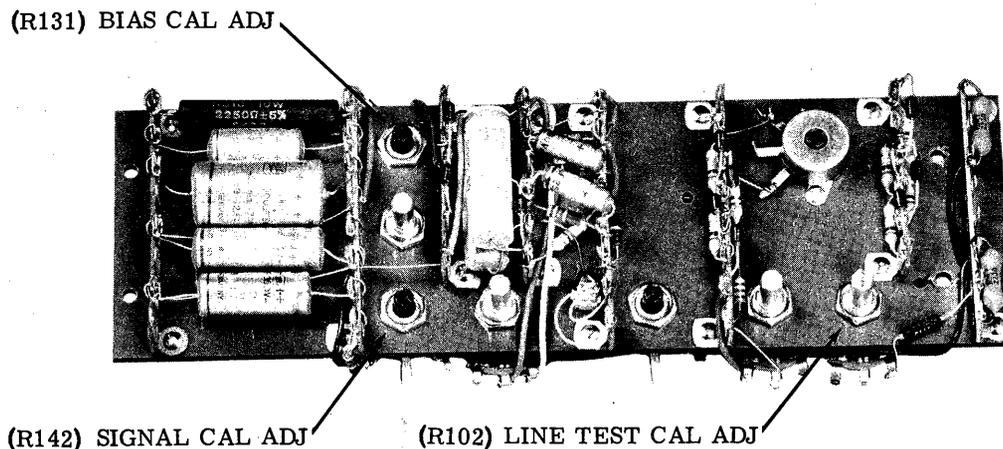

Figure 6-1. Circuit board with some Components Removed for Clarity
The calibration pots on the circuit board (inside the tester) have been set at the factory and should not require further adjustment. If the setting or settings of the LINE TEST CAL ADJ, the SIGNAL CAL ADJ, or the BIAS CAL ADJ controls have been disturbed, they may be re-set by following the procedures outlined in paragraphs 6-2, 6-3, and 6-4, respectively. See figure 6-1. The remaining five (pots) controls on the circuit board should be re-set, only by an authorized factory representative or repair station.
- c. If the AC voltmeter does not read 100 volts, connect the Tester to the line through a Variac auto-transformer adjusted for 115 volt output. Re-set the LINE ADJUST control to its approximate midpoint and by means of the line test calibration adjustment (R102, figure 6-1), adjust the meter pointer of the MICRO-MHOS meter to read over the LINE TEST mark while depressing the LINE TEST (S11) push switch.
c. Set the BIAS VOLTS control to zero (0).
e. Adjust the signal calibration adjustment (R142, figure 6-1), for a reading of 0.278 volts, $\pm 1\%$, on the AC-VTVM.
g. Adjust the bias calibration adjustment (R131, figure 6-1), for a 50 volt reading on the VTVM. If the VTVM indicates zero (0) volts, check BIAS FUSE lamp (F2). Replace with No. 49 if necessary.